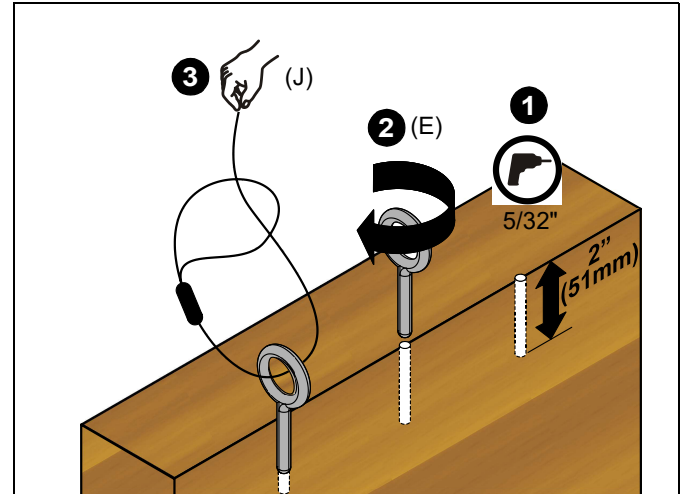

Figure 4
1. Drill 5/32" diameter x 2" deep hole at each marked cable anchor support location (See Figure 4). Use a plumb drop tool to make sure holes will be directly aligned with holes on ceiling. Remove debris from hole.
2. Fully thread eye lag (E) into each hole (See Figure 4).
3. Route end of cable (J) through eye lag (E) and then through cable loop. (See Figure 4)